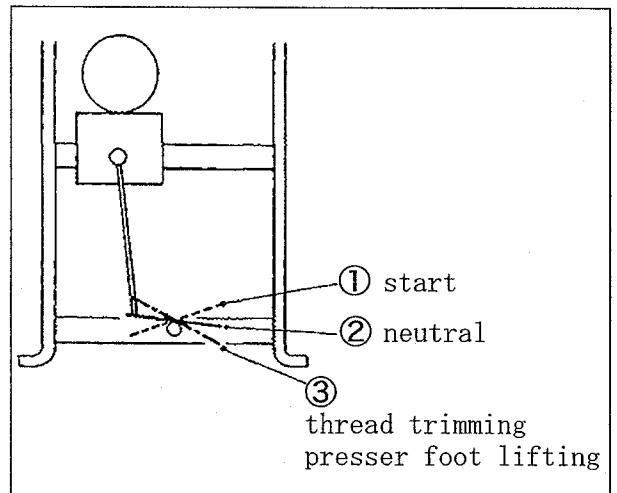

Fig. 1-3
- (1) Heel back the pedal to raise the presser foot.
- (2) Place the material under the presser foot and toe down the pedal. (Fig. 1-3 ①)
- (3) Release the pedal. (Fig. 1-3 ②)
- (4) Heel back the pedal. (Fig. 1-3 ③)
- (5) Release the pedal. (Fig. 1-3 ②)